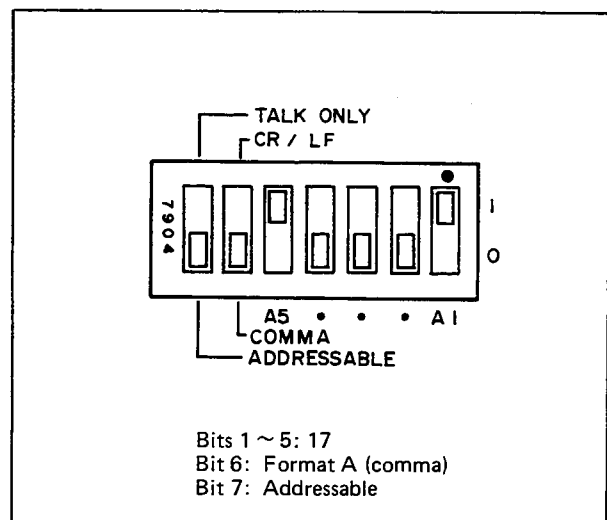

Figure 3-35. HP-IB Control Switch
3-118. The HP-IB Control Switch, located on the rear panel, has seven bit switches as shown in Figure 3-35. Each bit switch has two settings: logical 0 (down position) and logical 1 (up position).
*Note: The HP-IB Control Switch, as set at the factory, is shown in Figure 3-35.*